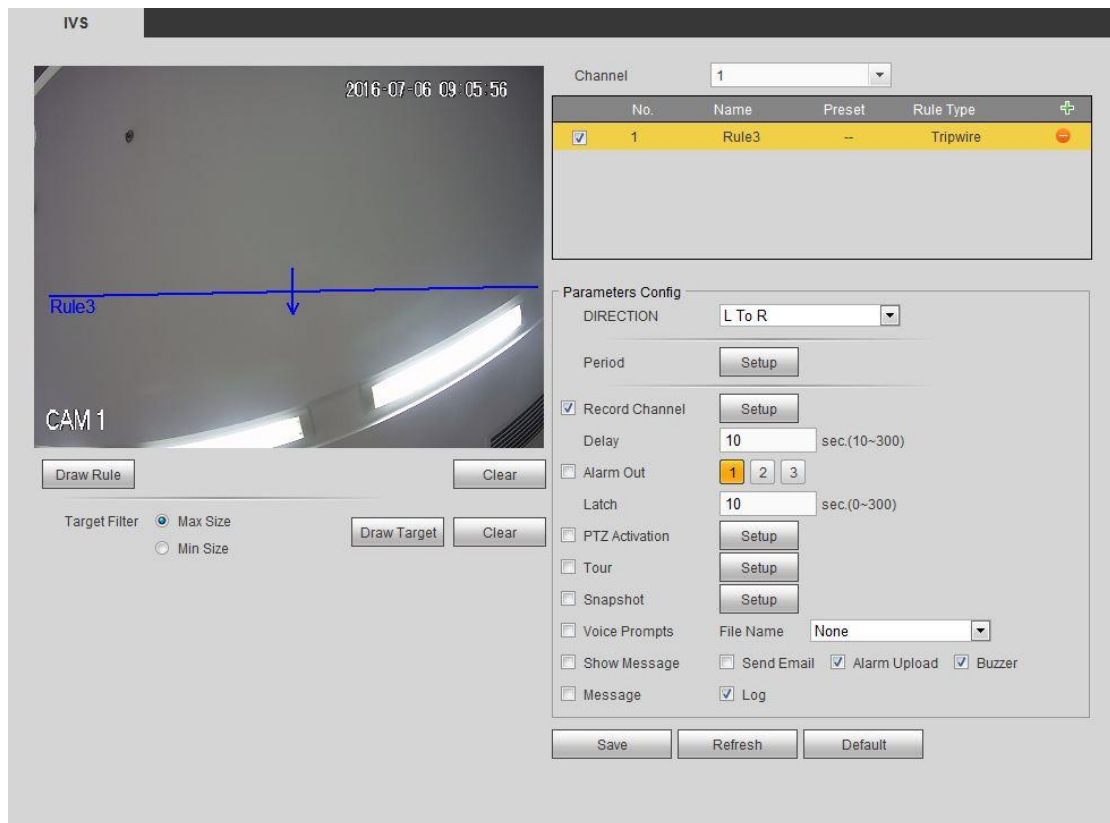

Figure 5-69
Step 3 Click Draw rule button and then left click mouse to draw a tripwire. Right click mouse to complete. See Figure 5-69.